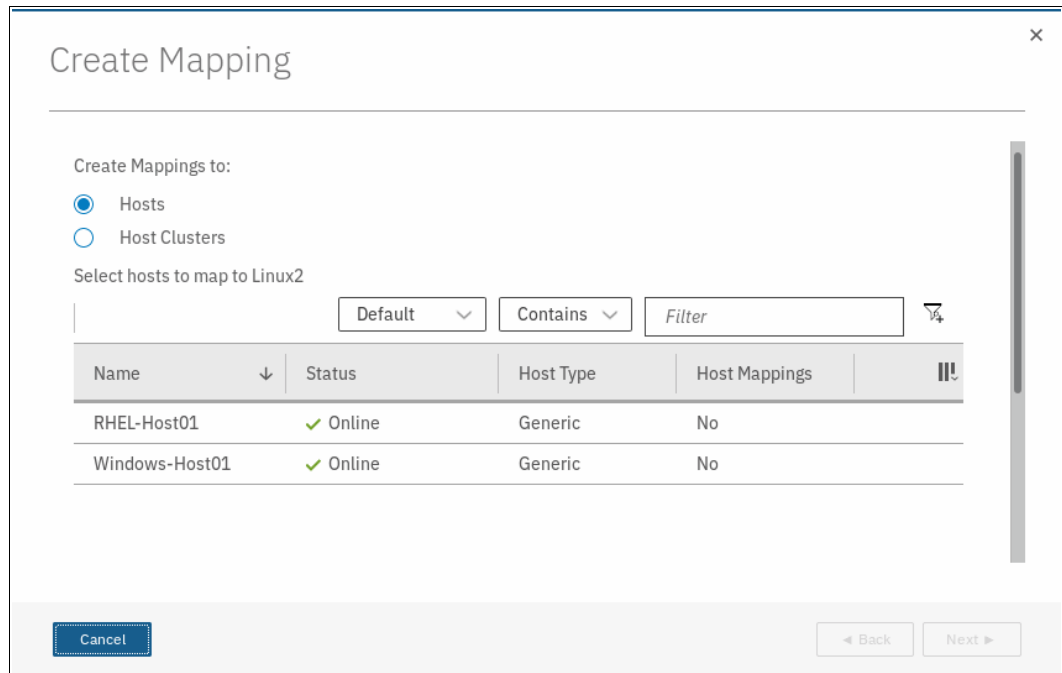

Figure 6-38 Select a host or a host cluster
2. Select a host or a host cluster to which the new volume should be attached, as shown in Figure 6-38.